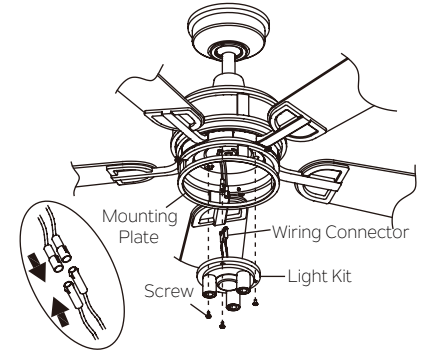

Fig. 23
Step 2. Remove the 3 preinstalled screws from the mounting plate as shown. Save them for reuse on step 4. (Fig. 23)
Step 3. Hold the light kit close to the mounting plate and connect the WHITE wires from the mounting plate and fan by pushing the connectors together. Follow the same procedure with the BLACK wires. (Fig. 23)
Step 4. Tuck the connections neatly into the light kit. Align the screw holes on the light kit and mounting plate. Securely tighten all 3 screws removed previously. (Fig. 23)